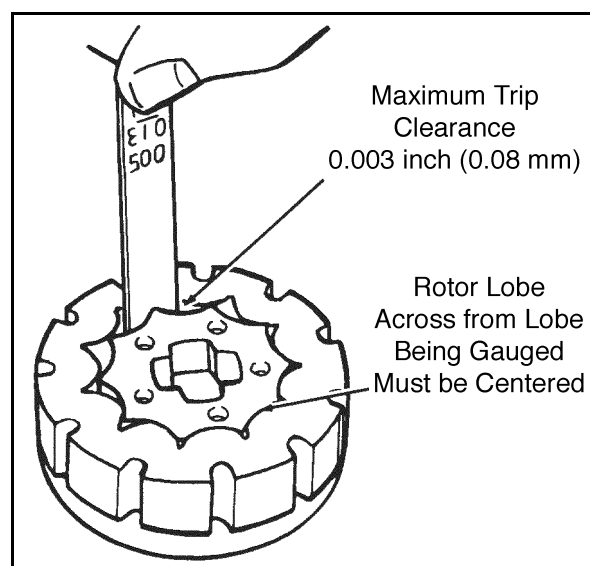

Figure 6C-4. Rotor and Stator Inspection
4. Inspect the hex drive (11) for wear.
5. Inspect the isolation manifold (13) for nicks, scratches, and scoring. A polished wear pattern due to valve plate rotation is normal.
6. Inspect the drive link (14) for wear and damage.
7. Inspect the thrust bearing (19) for brinelling, spalling, and missing rollers.
9. Inspect the commutator cover (2) and drive plate (9) for wear and damage. A polished wear pattern is normal.
10. Inspect the rotor (7) and stator (8) fit, see Figure 6C-4.
11. Clean and inspect the relief valve assembly (5).
steering valve. The correct alignment is illustrated in Figure 6C-7.
4. Install the upper cover plate (22), see Figure 6C-2.
5. Assemble the seal spacer (21) and seal (20) as shown in Figure 6C-2.